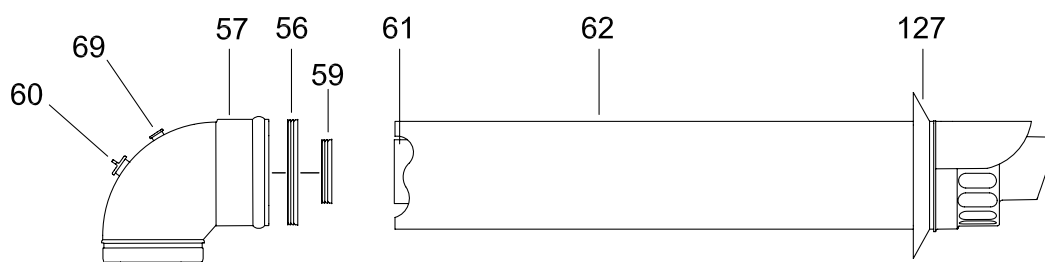

Fig 10
HORIZONTAL FLUE KIT BOX CONTAINING (Fig 10):
Note: Add 30 mm to overall flue length to allow for terminal wall cover. (fig.10 item 127).
Note: Add 30 mm to overall flue length to allow for terminal rubber wall seal (fig.10 item 127).
Working above the boiler pull the flue duct towards the elbow in order to engage the tube into its header (fig.10). Position the flue elbow in line with the flue and push so as to locate inner and outer flue correctly. Ensuring a good seal is made with O-rings. Tighten the two screws on the flue flange to secure the elbow header in place.
Terminal rubber wall seal must be fitted (item 127 fig.10).